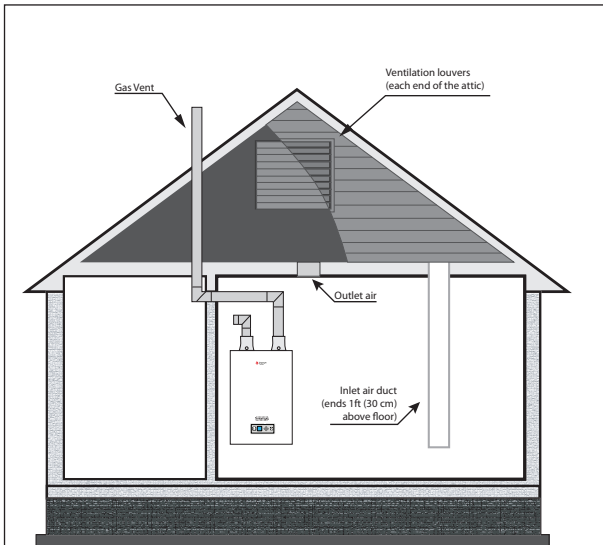

Fig. 3 - All Combustion Air from Outdoors Through Ventilated Attic
- Where directly communicating with the outdoors or where communication to the outdoors is through vertical ducts, each opening shall have a minimum free area of 1 sq. in./4000 Btu/hr [645 mm² per 1,172 W] of total input rating of all equipment in the enclosure. See Fig. 3 below.